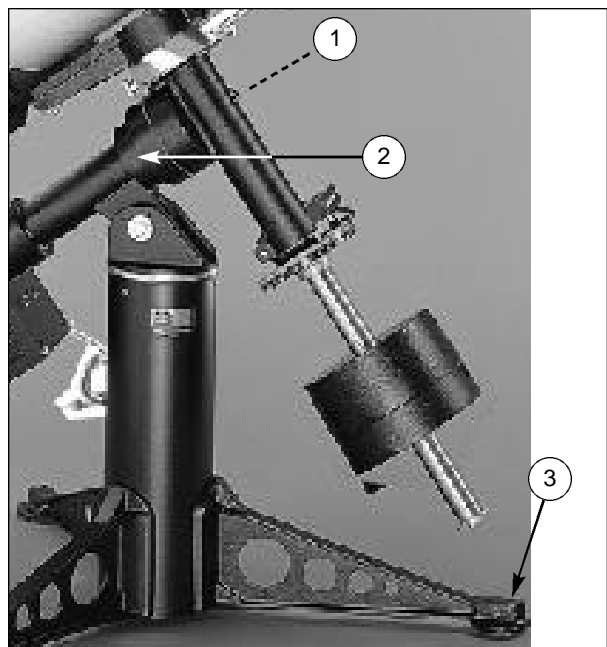

Fig. 11: Aligning the Telescope With the Celestial Pole. (1) Polar Axis; (2) Polar Casting; (3) North-Pointing Leg.
- a. Identify the tripod leg designated as the "North Leg" (3), Fig. 11, (the leg that is parallel to the Polar Housing (2), Fig. 11, when viewed from above).
2. Tilt the telescope tube towards Polaris, so that the polar axis (1), Fig. 11, is now roughly aligned with the North Celestial Pole.